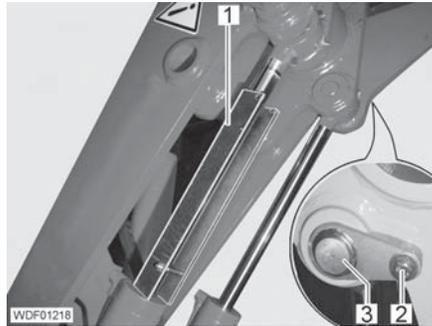

Fig. 245 Securing the lift frame
- Remove the fastener (Fig. 245,1) and lower the lift frame.